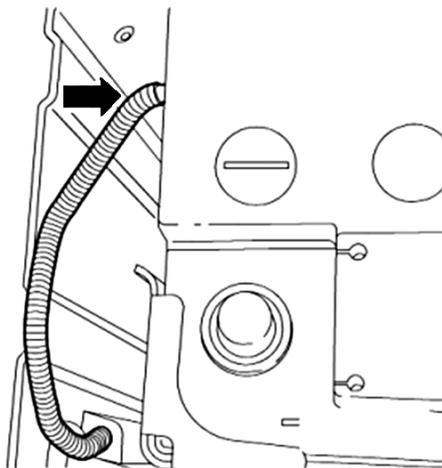

Fig. 7 Gas vent hose disconnect
13. Disconnect central gas vent hose (arrow) from top cover, Fig. 7.
4. Connect central gas vent hose (arrow) to top cover, Fig. 7. Ensure central gas vent hose is attached to battery and that it cannot get disconnected when battery is being installed. Only then can battery be properly vented.